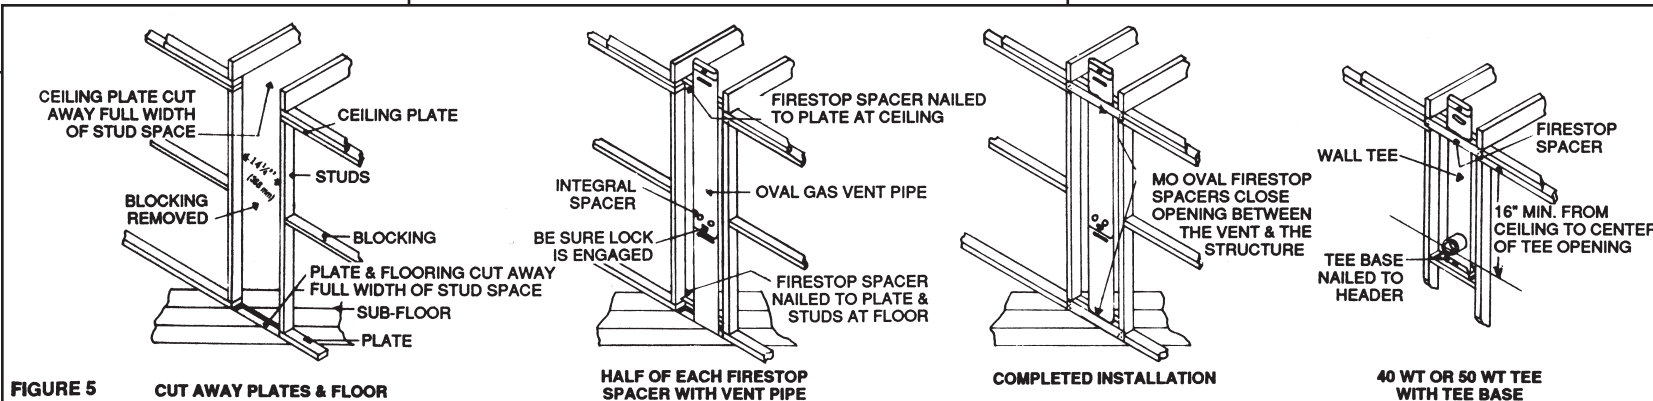

FIGURE 5 CUT AWAY PLATES & FLOOR
1. Normally the appliance outlet is of a round shape. Therefore, a B-Vent Section or Drafthood connector (MDC) will be attached to the appliance. To transition to oval sections, a Round to Oval Adapter (MRO) is required. The floor and ceiling plates must be cut away to allow placement of the oval. To position the oval, and maintain clearance to combustibles, a firestop (MOFS) is used at the floor and the ceiling (See Figure 5).
2. If the appliance is in the same room as the entry to oval vent, the oval tee (MOT) can be installed in the wall studs. To close the bottom of the Tee, use the Tee Cap (MOTC). To support the Tee within the wall studs, use the Tee Support (MOTS). As the oval vent continues upward, use the MOFS at the ceiling level (See Figure 5).